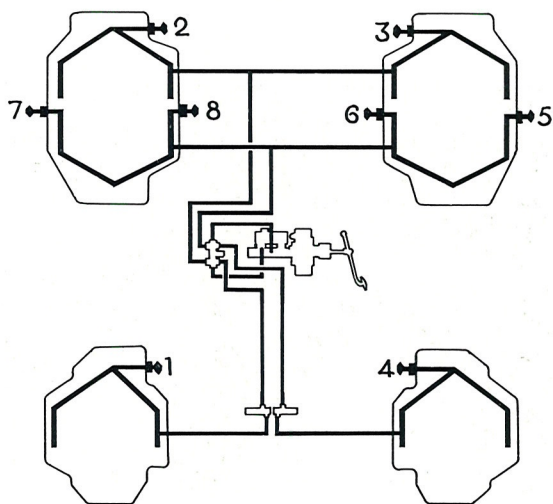
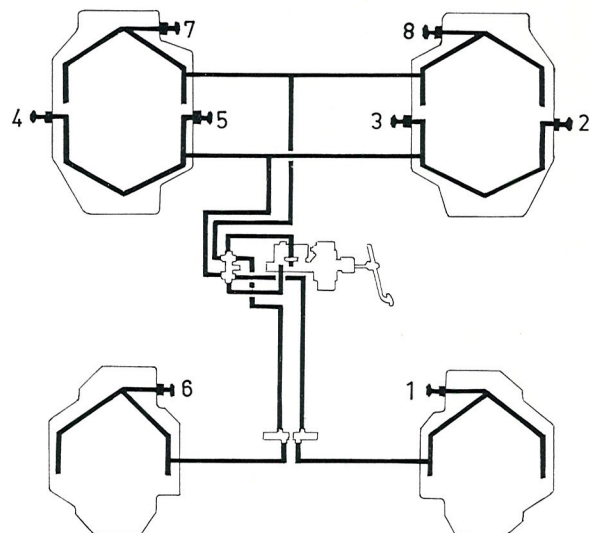

Fig. 5-61. Venting sequence, left-hand steering
Fig. 5-62. Venting sequence, right-hand steering
4. Venting should take place in the order shown in Fig. 5-61 for a left-hand steered car and Fig. 5-62 for a right-hand steered one.
4. Venting should be carried out in the order shown in Fig. 5-61 and Fig. 5-62 respectively and as follows: